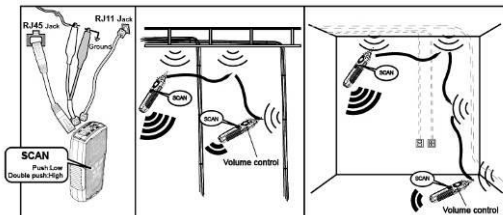

Figure 1 Locating cables
To locate cables, do the following steps (Figure 1) :
- 1) Connect the black alligator clip of the Transmitter to the ground, and then connect the red clip to a jack or punch-down block as shown in Figure 1.
- 2) As the Figure 1 shown, when push , the indicator of "POWER/ BAT LOW" will light up and turn on the power. Push  button for cable tracing. When the RED indicator flickers, the low-tone cable tracing is working. Push  button again to feature the high-tone cable tracing, the RED indicator will flicker faster. Push  button again, the RED indicator will stop and standby for next operation.
- 3) As the figure 1 shown, place the receiver function switch at "scan" or "LED", and push "" on receiver to operate cable tracing function. The tracing sound will be output from speaker. When put on earphone, there will be no sound from speaker, but from the earphone.